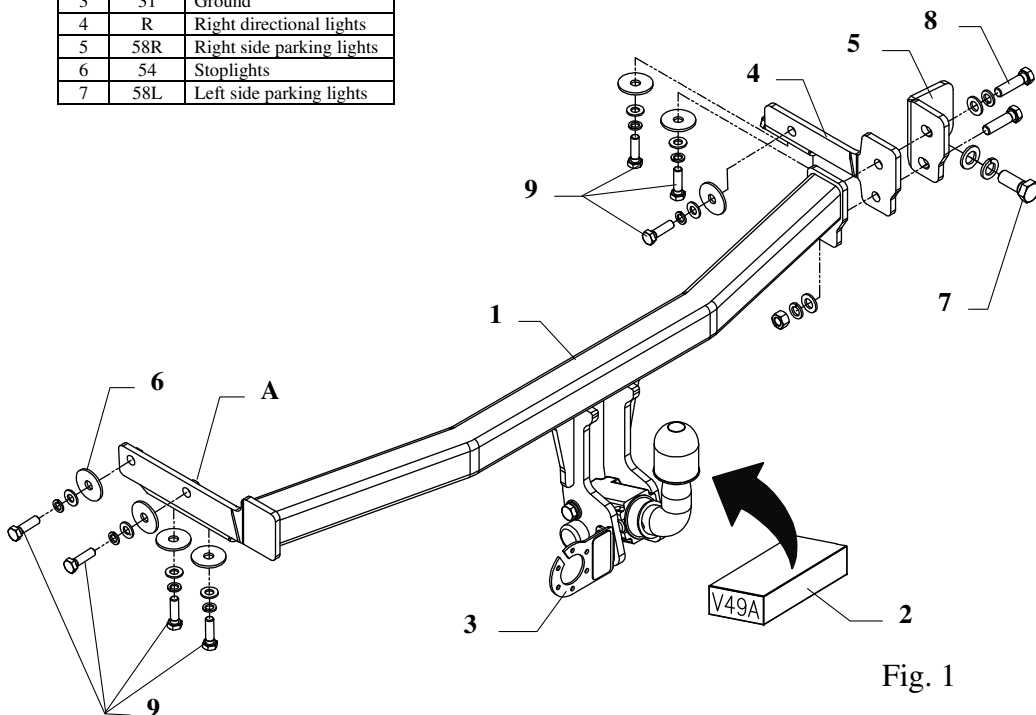
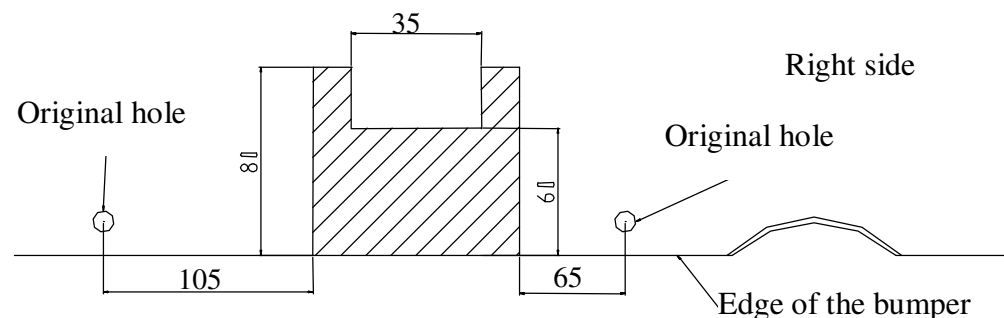

Fig. 1
Fig.2
2. To right chassis member slide bracket (pos. 4) and screw loosely with bolts M10x35mm (pos. 9) through original holes.
3. Put main part of the towbar (pos. 1) (part A in left chassis member) and screw loosely with bolts M10x35 and screw all together with mounted bracket (pos. 4) and angle element (pos. 5) with bolts M12x45mm (pos. 8) as shown in the fig. 1.
4. Angle element (pos. 5) screw with bolt M16x40mm – pos. 7 (instead of original tow handle).
5. Reassemble the muffler and the bumper (after cut out his fragment) see fig. 2
6. Fix body of the automat and place tow-ball according to supplied instruction. Note! Remember to place socket plate (pos. 3) as shown on the drawing 1.